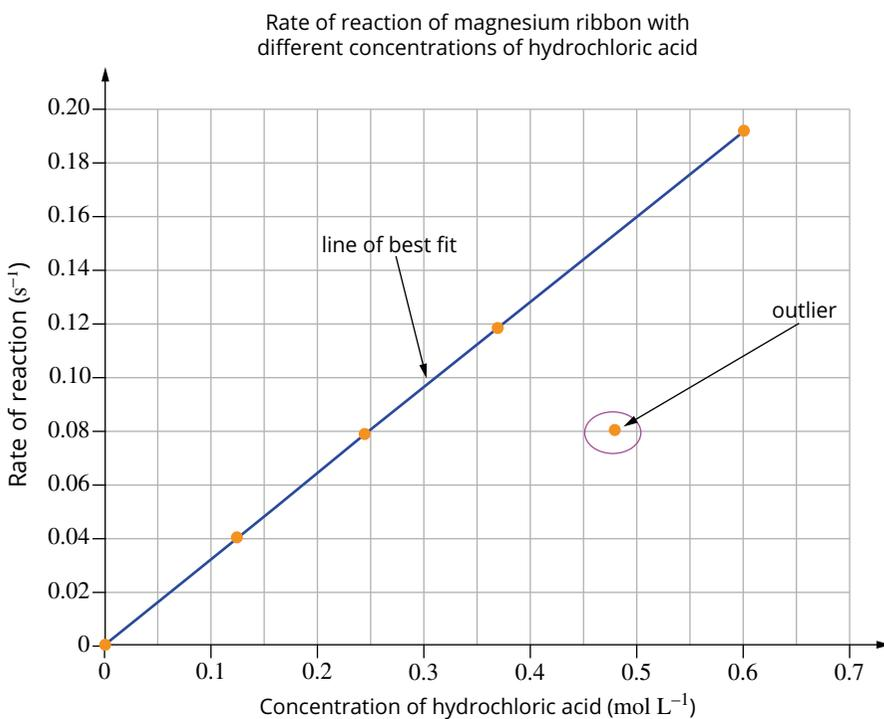

FIGURE 20.4.2 The graph shows an example of an outlier ignored in forming a line of best fit.
- The points can be joined with a single smooth straight or curved line (Figure 20.4.2). This creates a **trend line**, also known as a **line of best fit**. The line of best fit does not have to pass through every point but should go close to as many points as possible. It is used when there is an obvious trend between the variables.
Sometimes when the data is collected, there may be one point that does not fit with the trend and is clearly an error. This is called an outlier. An outlier is often caused by a mistake made in measuring or recording data. If there is an outlier, include it on the graph, but ignore it when adding a line of best fit. As you can see in Figure 20.4.2, the point (0.48, 0.08) is an outlier because it does not fit the trend of the other data points, therefore it was not used in drawing the line of best fit.